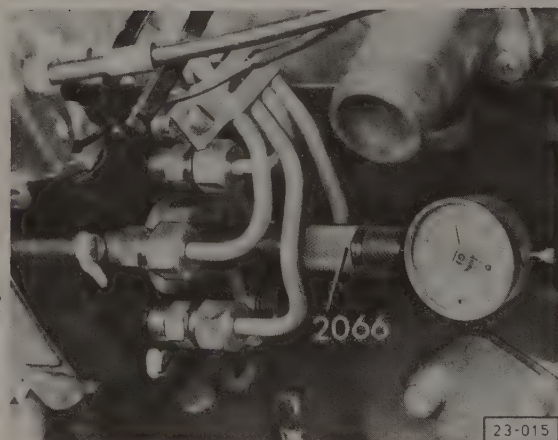

Fig. 5-21. Dial indicator mounted on fuel injection pump. Adapter shown is Volkswagen special tool no. 2066 (order no. T02 066 000 00 ZEL).
2. Remove the timing-check plug from the pump cover, shown in Fig. 5-20, and install a dial indicator with (3 mm range) as shown in Fig. 5-21. The gauge should be installed so that it indicates about 2.5 mm (preload).